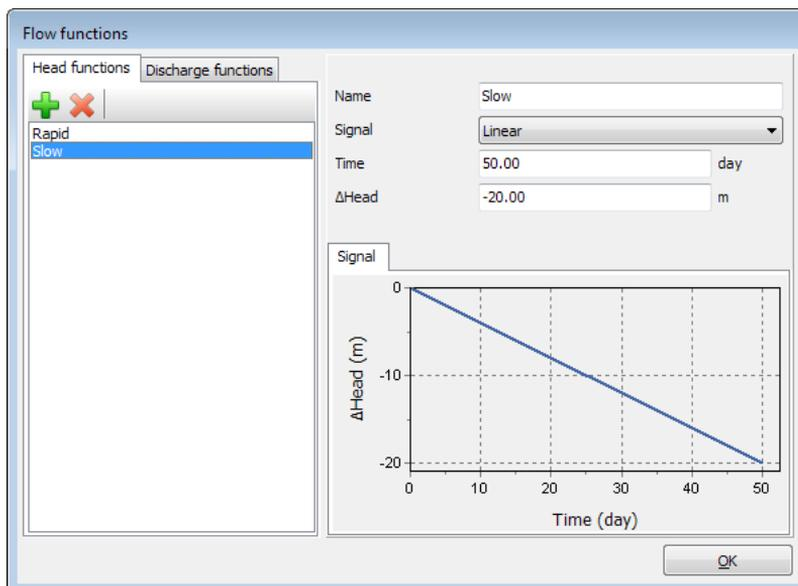

Figure 8.11 The flow function for the slow drawdown case
- Assign a value of -20 m to $\Delta Head$, representing the amount of the head decrease. A graph is displayed showing the defined function (Figure 8.11).